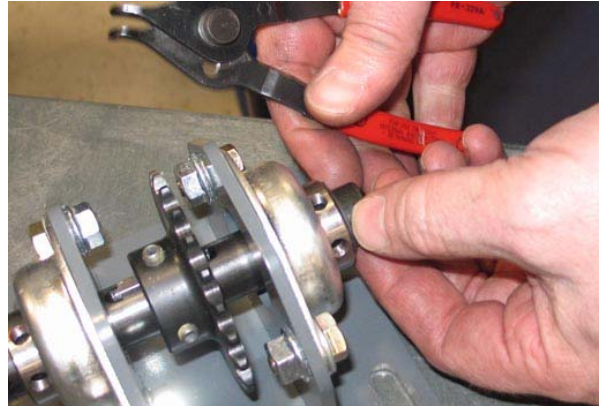

FIG. 43
4. Install snap ring (4) onto the end of the steering shaft (1). (Fig. 43)